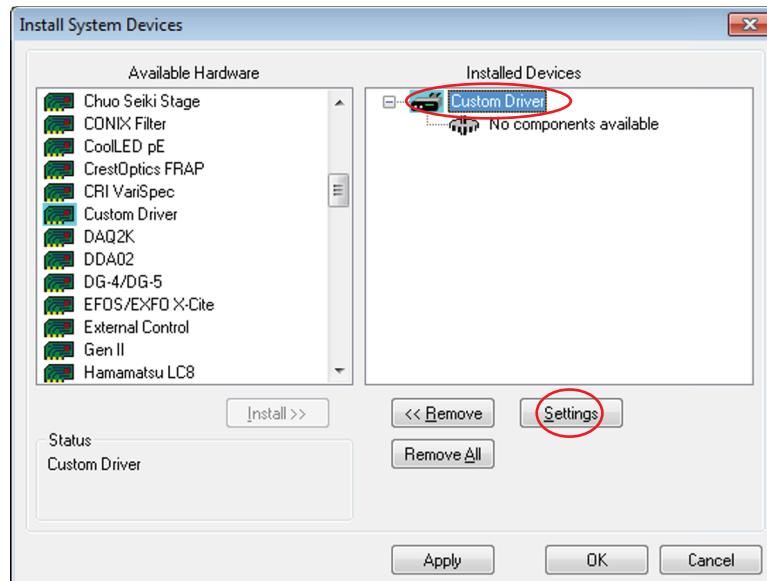

Figure VI-12. Apply Settings to the Custom Driver
- Click the directory for **Custom Driver** in the right column, and then click Settings, as shown in Figure VI-12.